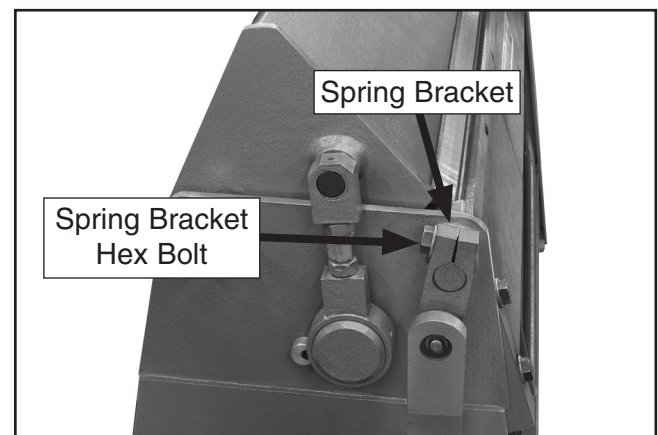

Figure 15. Spring-assist assembly.
Lag shield anchors with lag bolts (**Figure 5**) and anchor studs (**Figure 15**) are two popular methods for anchoring an object to a concrete floor. We suggest you research the many options and methods for mounting your machine and choose the best that fits your specific application.
1. Loosen the spring bracket hex bolt (**Figure 15**).